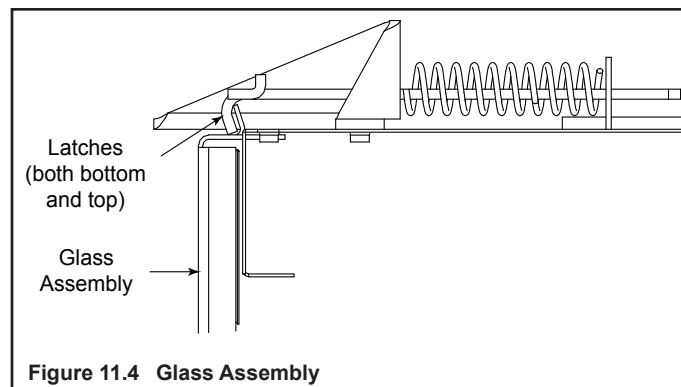

Figure 11.4 Glass Assembly
- Pull the four (30/33/36 in. appliances) or seven (42 in. appliance) glass assembly latches out of the groove on the glass frame. Refer to Figure 11.4.
- Replace glass latches. See Figure 11.4.